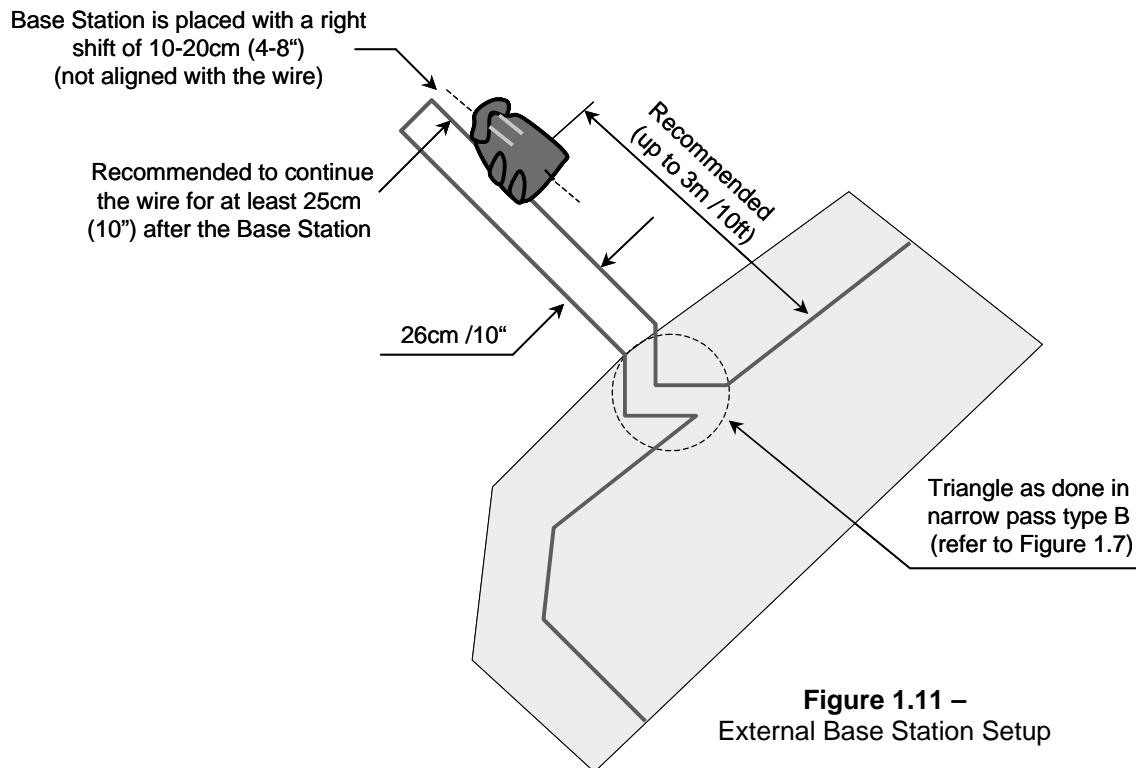

Figure 1.11 –
- Place the Base Station according to your plan with the fence towards the inner side of the lawn, as shown in Figure 1.11 or 1.13;